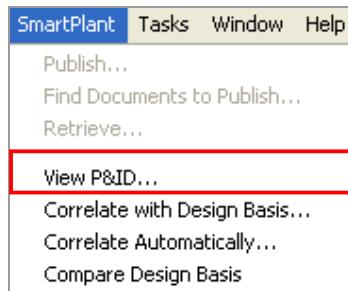

Figure 3: SmartPlant > View P&ID
34. Open the P&ID file that contains the design basis of the pipeline you want to model. Click the **SmartPlant > View P&ID...** command, as shown in Figure 3.